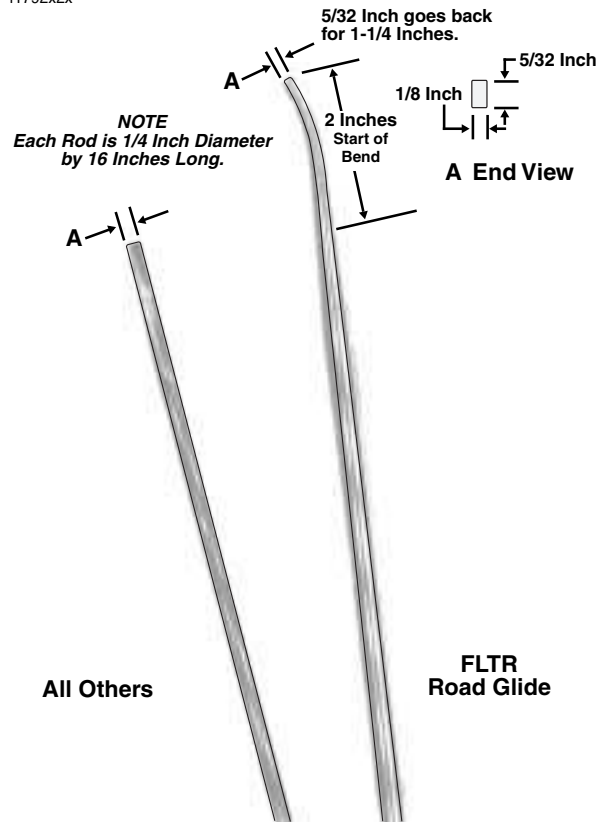

Figure 2-86. Fashion Steering Head Bearing Adjustment Tool From Drill Rod
- Fashion a bearing adjuster tool using a drill rod 16 inches long. See lower frame of Figure 2-86.
4. Remove the bearing adjuster and fork stem assembly. See upper frame of **Figure 2-86**. Remove dust shield and bearing from top of steering head.